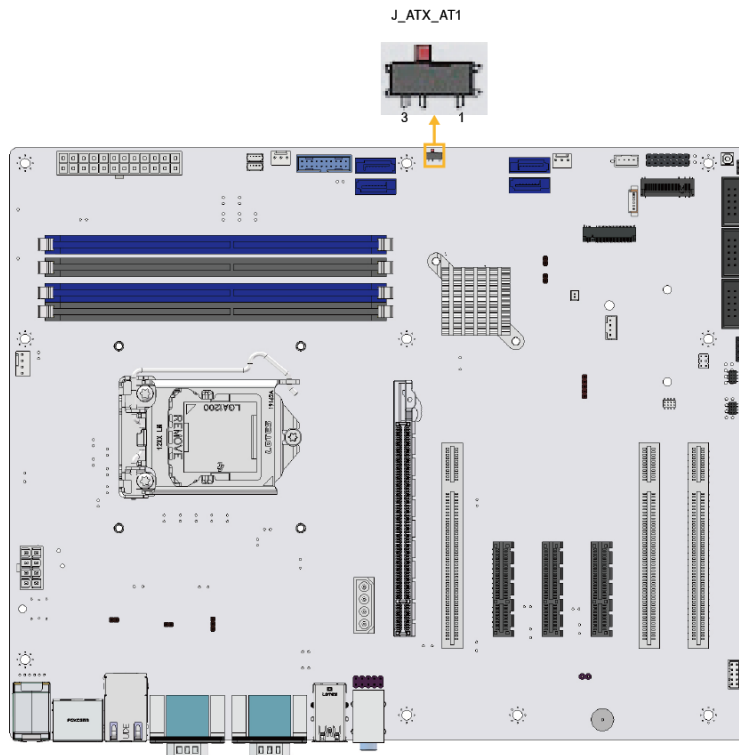

Figure 3-7: AT/ATX Power Mode Switch Locations
- CN Location:** See Figure 3-7